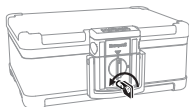

Figure 1.2
2. Turn the key counterclockwise to the left $\frac{1}{4}$ turn (Figure 1.2).